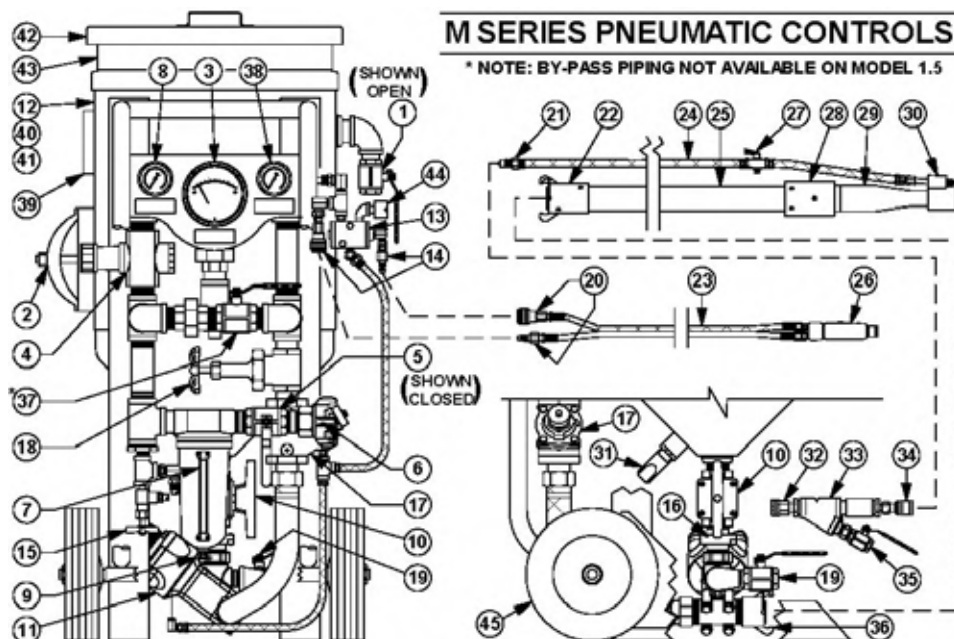

Figure 20
2. Remove the vessel lid (#42) and screen (#43) to check that the popup (#41) has dropped open. This indicates that the blast vessel is depressurized. See Figure 20.